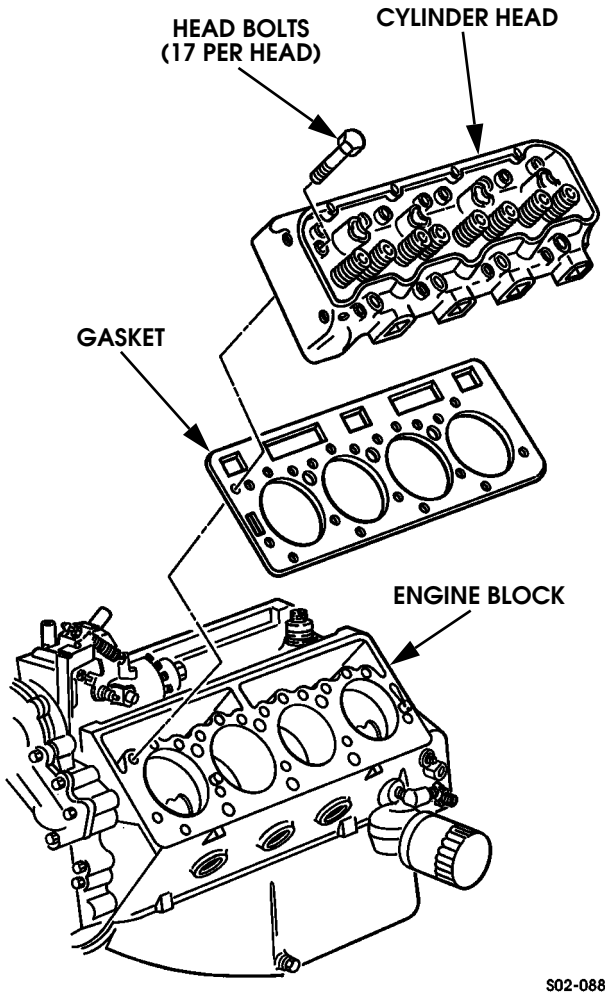

Figure 2-103: Cylinder Head and Gasket Removal
1. Remove cylinder head bolts (Figure 2-103).